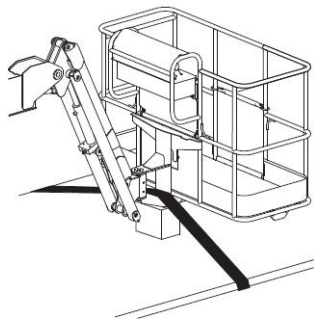

Figure 10-4 Schematic diagram of platform fixing
- 7) Place the cushion block below the platform rotary connection, and do not make the cushion block contact the platform oil cylinder. Make the nylon strap run through the platform support to fix the platform. Do not apply downward force excessively when protecting arm lever components, as shown in Figure 10-4.